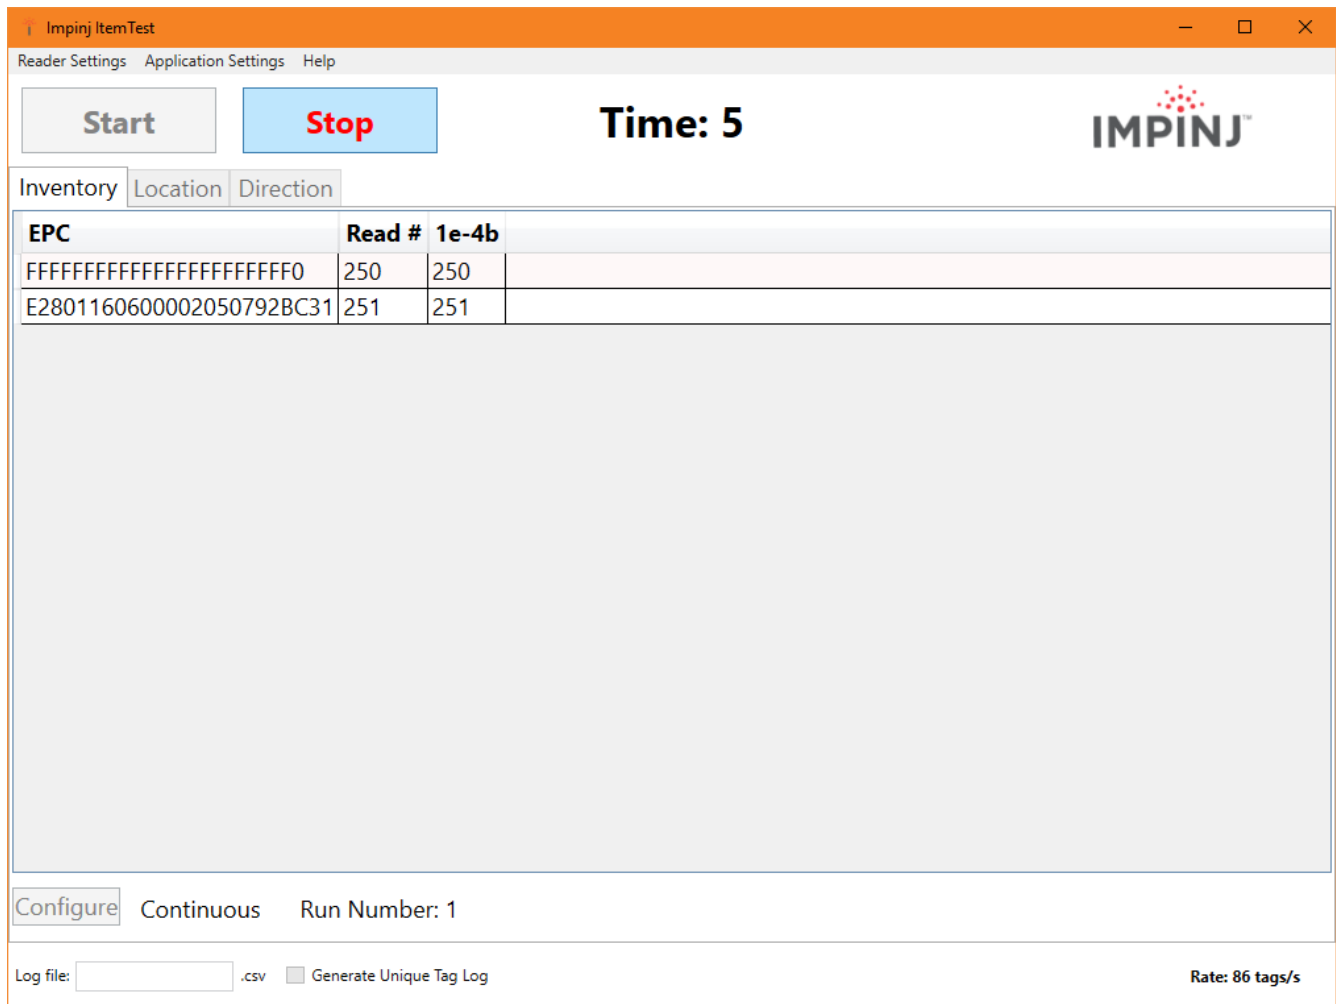

Figure 6.5 ItemTest Tag Inventory Display
14. Test your reader installation. Place one or more tags in the read-zone of one or more of the attached antennas. On the ItemTest application screen, click **Start**. Tag reads appear under **Inventory**, as shown in Figure 6.5.